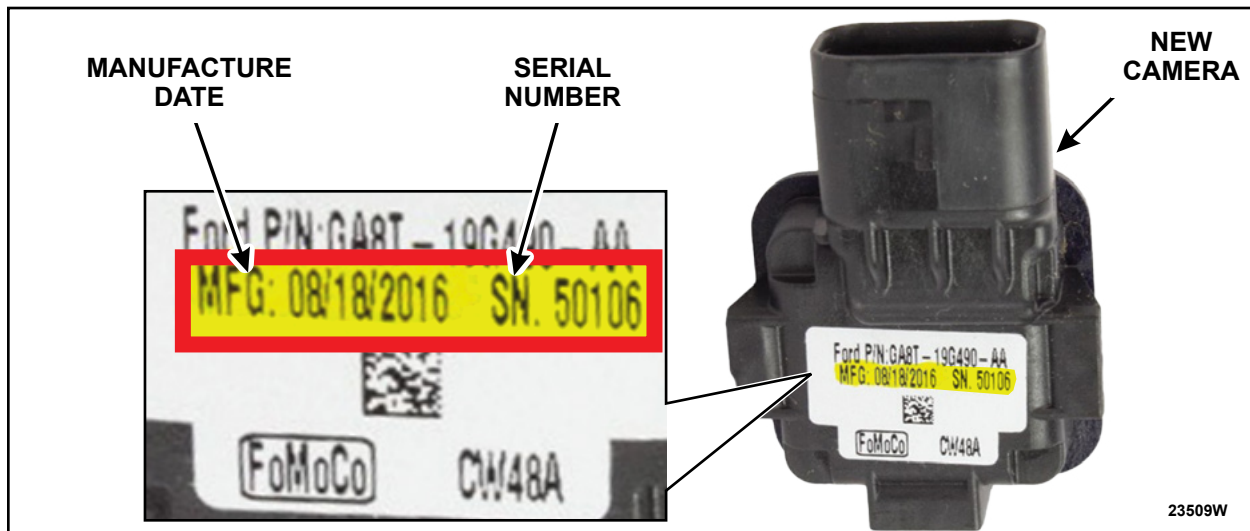

FIGURE 10
2. *Write down and include the new camera manufacture date and serial number onto the repair order. The new camera manufacture date serial number should also be included in the warranty claim submission in the technician comments section. See Figure 10.*